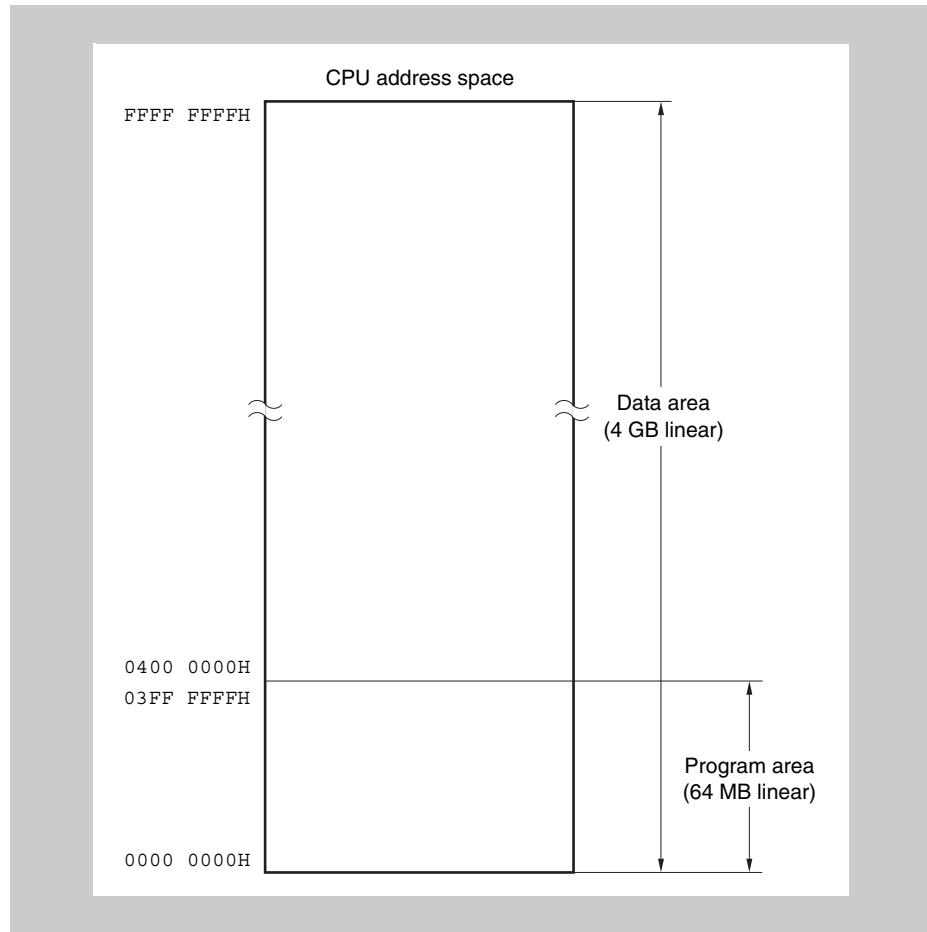

Figure 3-4 CPU address space
*Figure 3-4* shows the assignment of the CPU address space to data and program space.